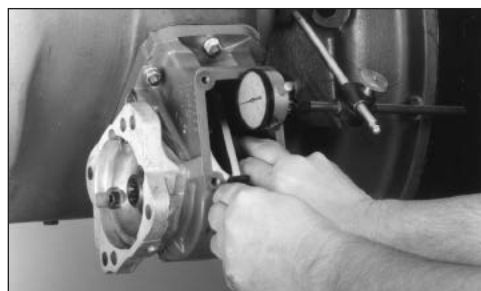

Figure 14
2. Mount the dial indicator so that it registers movement of the input gear (driven gear) of the PTO (**Fig. 14**).